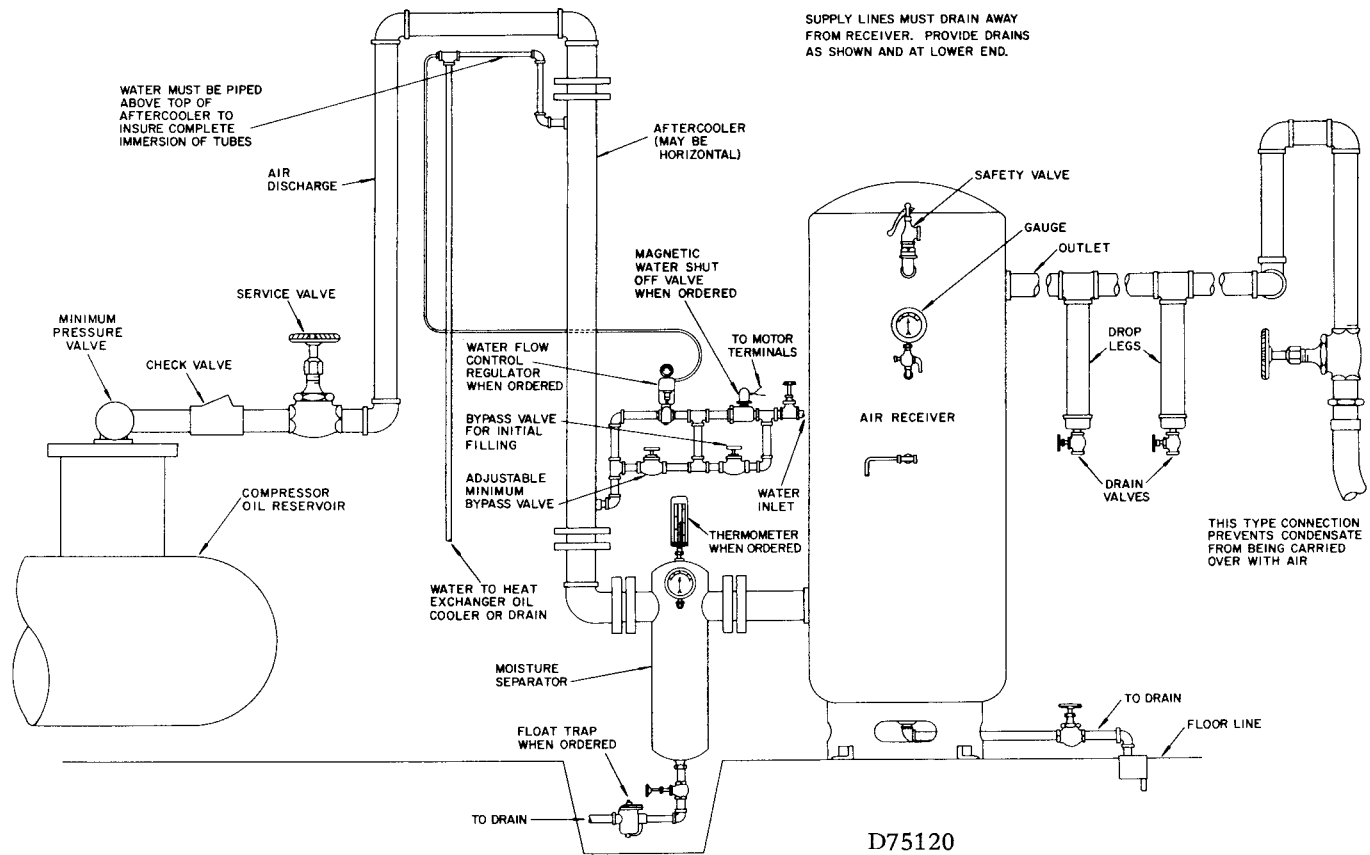

FIGURE 4-2. — AUXILIARY ACCESSORIES
**AUXILIARY AIR RECEIVER** — Constant speed control units do not normally use an auxiliary air receiver. Automatic start-stop, dual and duomatic control units require an auxiliary air receiver unless the piping system is large and provides sufficient storage capacity to prevent rapid cycling. When used, an air receiver should be of adequate size, provided with a relief valve of proper setting, a pressure gauge and a means of draining condensate. Figure 4-2 shows a typical air receiver and auxiliary accessories.
**AFTERCOOLER** (Figure 4-2) — An aftercooler will provide control of moisture entering the shop air lines while reducing the normal low discharge temperature of about 170° F. at 100 PSIG discharge pressure to near inlet air temperature.
**Externally-Mounted Aftercooler** — When the aftercooler is mounted outside the compressor unit, it is to be installed between the final discharge outlet and any auxiliary air receiver. Figure 4-2 shows a water-cooled aftercooler, but the piping arrangement shown also applies to an air-cooled type. A moisture separator is to be mounted directly downstream from the aftercooler and before any auxiliary air receiver. A suitable moisture trap should be provided at the separator to insure adequate draining.